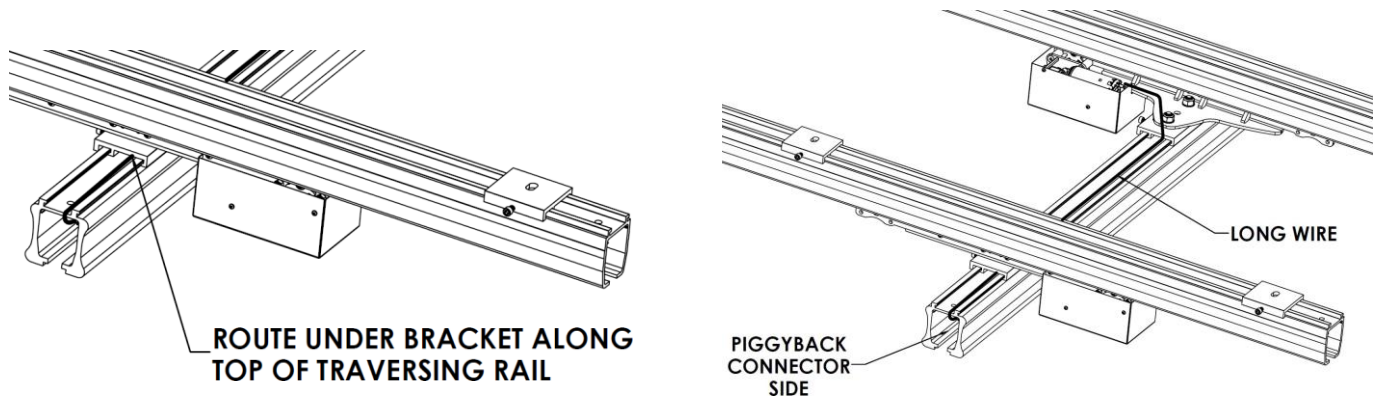

Figure 64: *Long Wire Placement*
11. On the traversing (X/Y) track, route the long wire across the top of the traversing track, beneath the gantry bracket (Figure 64).